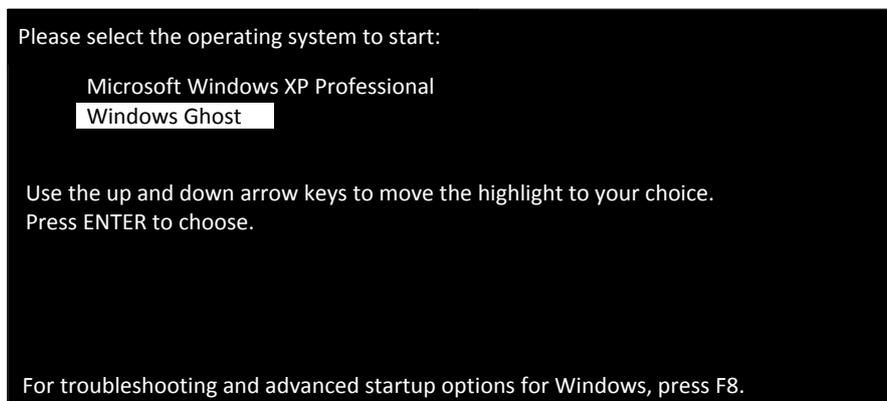

Fig. 4-6 Select “Windows Ghost” operating system
- 1) Power on the machine, access the operating system choice interface, and select “Windows Ghost”, as shown in Fig. 4-6.